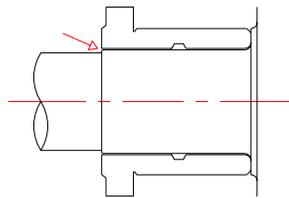

Fig. 24
- Refit the bearing on to the crankshaft and measure the clearance, Table 11 (Fig. 24).